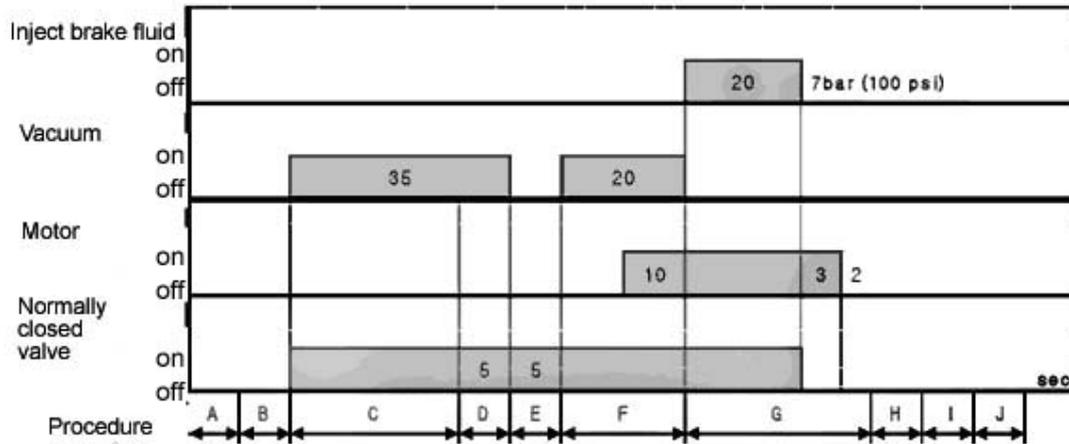

Fig. 3-19
1. Regular operation procedures (Fig. 3-19).